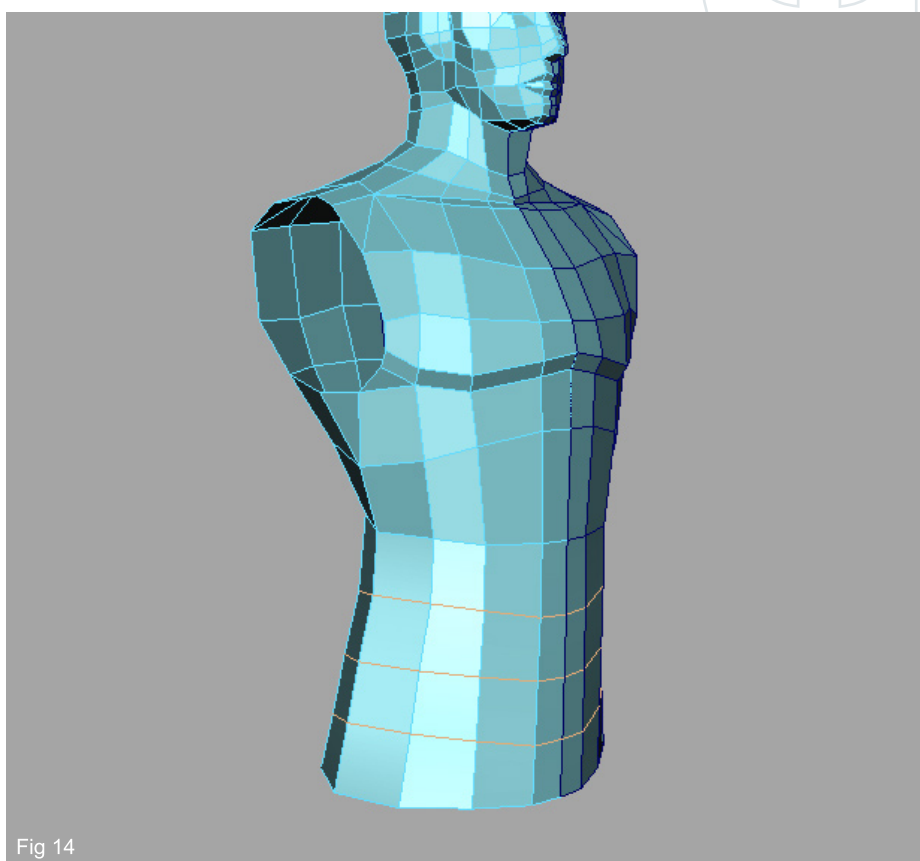

Fig 14
14. Use "Edit Polygons > Cut Face Tools" to add 3 more edges - "Fig 14". We need it for sculpting a nice shape.